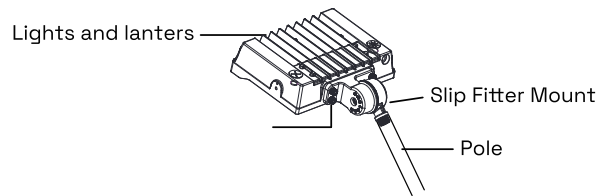

Fig 3.4
Step 3: Loosen screw, adjust fixture angles as per actual demands and tighten screws later. angles of the fixture is adjustable (pass the bracket through mounting surface, fix it with screws, then connect the wires as per proper wiring requirement. Figure 3.4